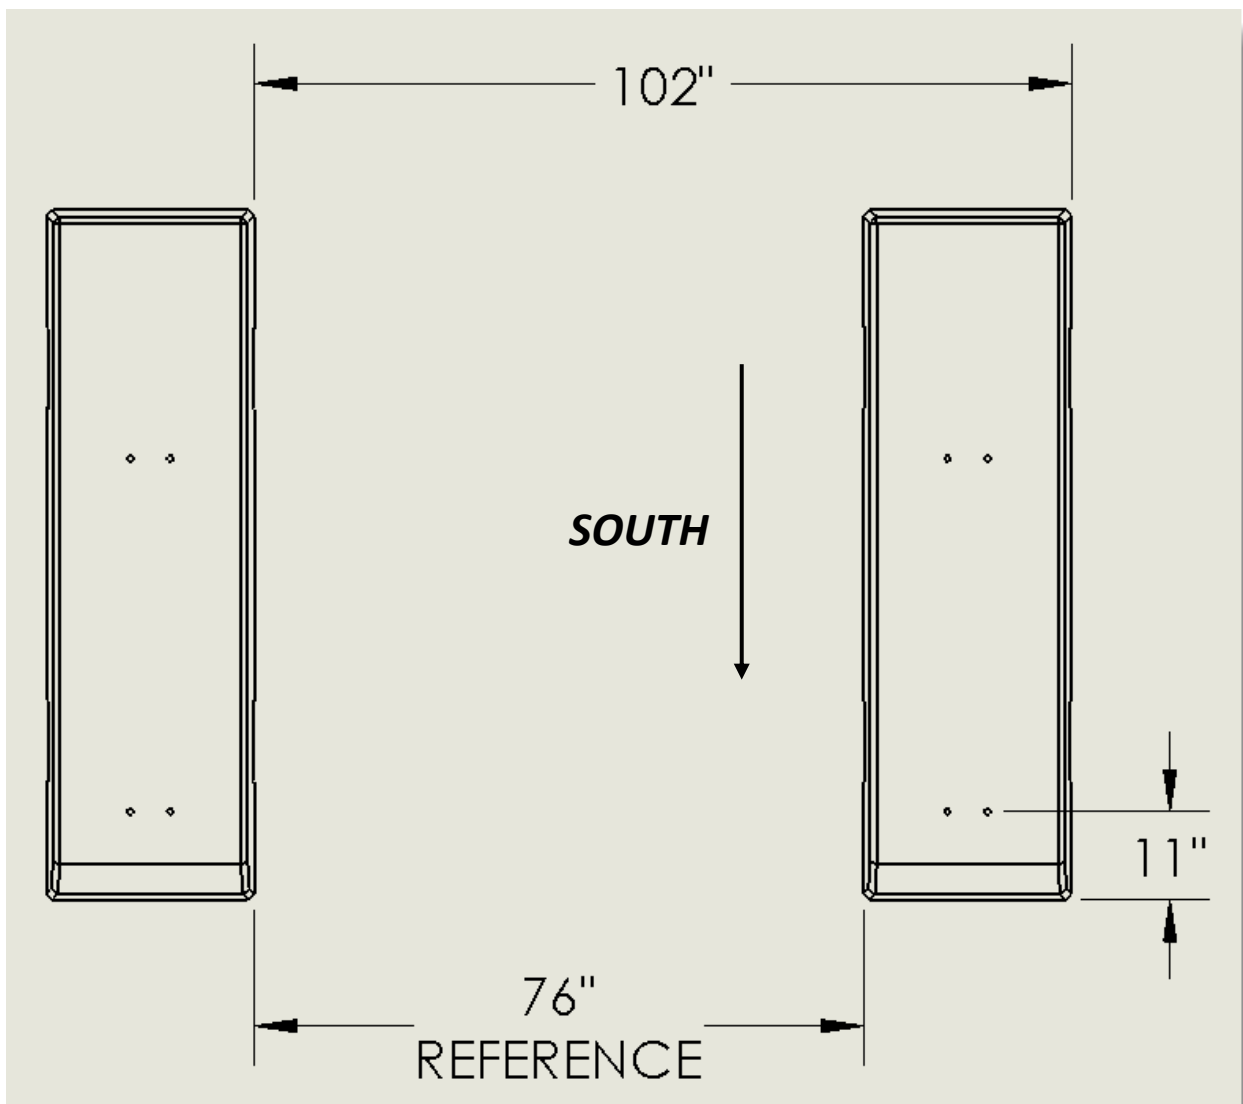

Figure 1
- a. SET THE G9 FOUNDATIONS PER CONSTRUCTION DRAWINGS. FOUNDATIONS HAVE (4) $\frac{1}{2}$ "-13 THREADED ATTACHMENT INSERTS EMBEDDED IN THE FOUNDATION CONCRETE. ORIENT THE FOUNDATION SO THAT THE END OF THE FOUNDATION WITH THE ATTACHMENTS 11" FROM THE END OF FOUNDATION IS POINTING SOUTH (FIGURE 1).